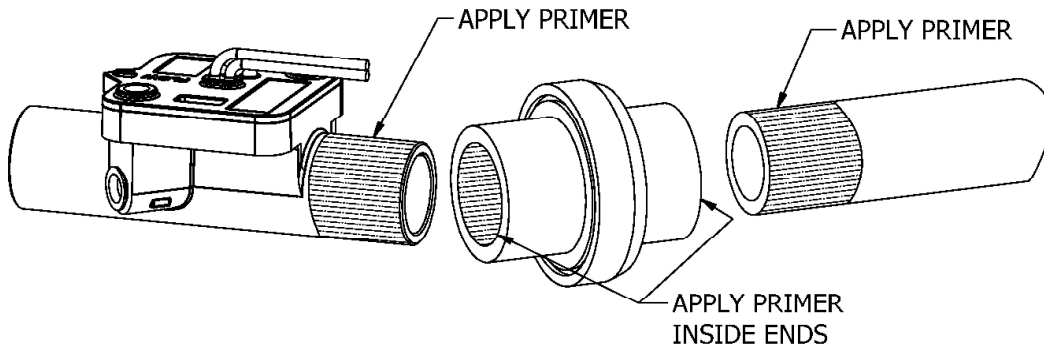

Figure 5
2. Clean and apply primer to the pipe ends, fittings and meter. (see Figure 5)